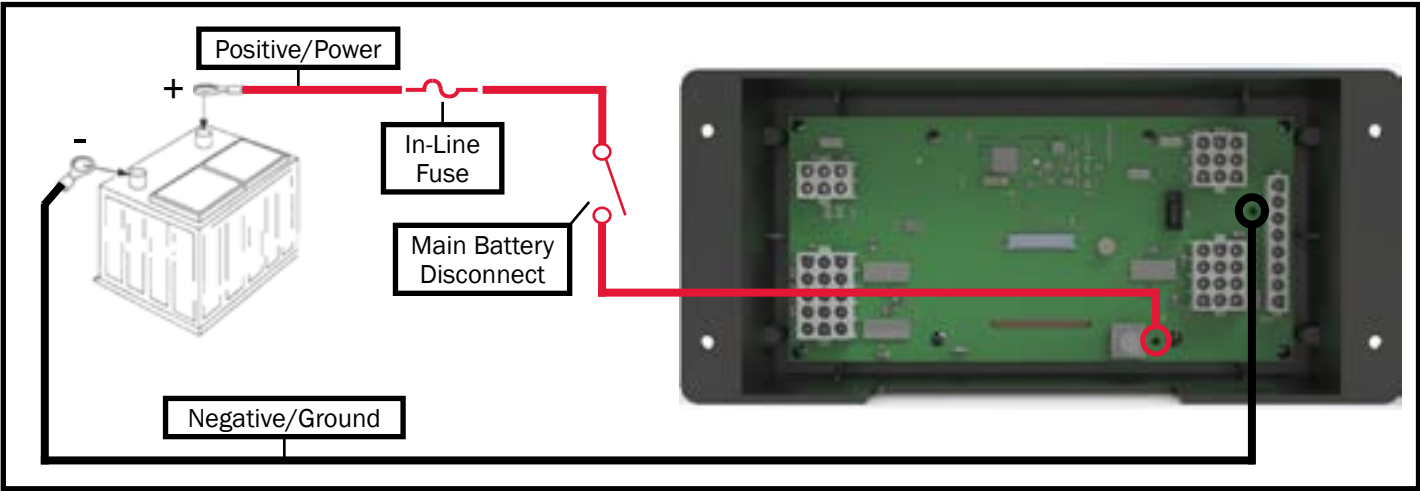

Figure 72
- Reference the schematics starting on page 44 and Figure 72.